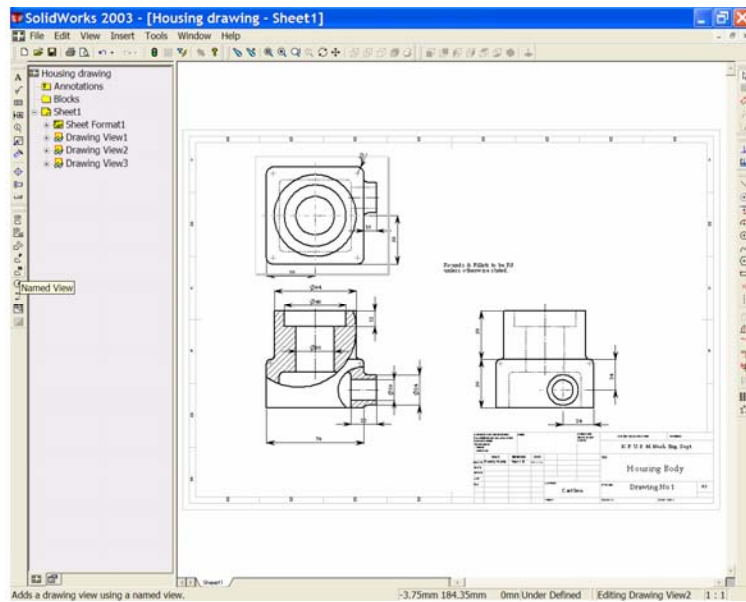
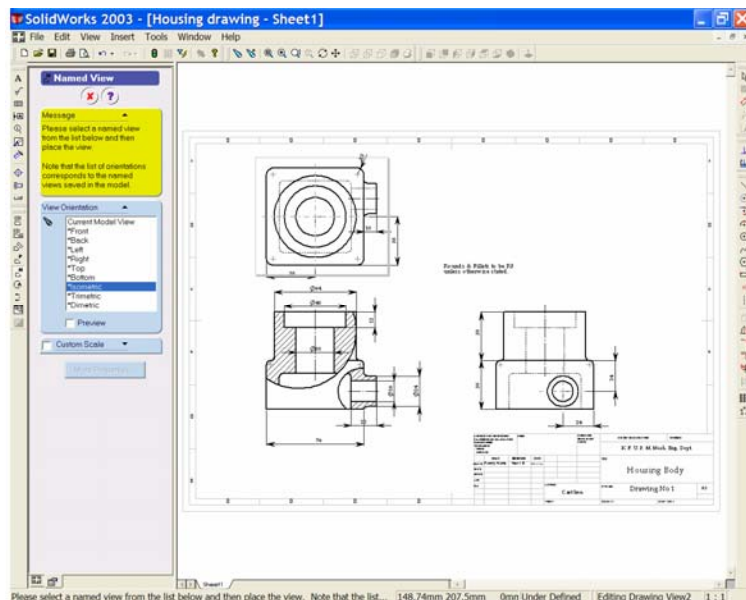

Figure 44
Figure 45
37. To finish we may now add a pictorial view of the model. From the **'Drawing Toolbar'** select the **'Named View'** button. See Figure 44. The Named View Property Manager opens and indicates four methods of selecting the model. See Figure 45. We will use method 1 for this drawing.
When you have placed the view choose the green tick  to complete the command. See Figure 45.